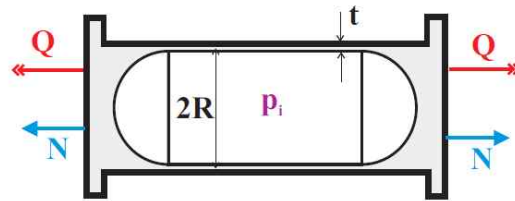

Fig. 7.13. Pressure vessel subjected to internal pressure, external torque and axial force.
The experimental set-up depicted in fig. 7.13 is aimed at studying the behavior of materials under complex stress states. A thin-walled pressure vessel of radius  $R = 11$  mm and thickness  $t = 2.0$  mm is subjected to an internal pressure  $p_i$ . At the same time, a normal force,  $N$ , and a torque,  $Q$ , are applied to the sample. In a specific experiment, the applied normal force is  $N = 16$  kN and the internal pressure  $p_i = 20$  MPa. The applied torque is slowly increased. The first permanent deformations are observed at the outer surface of the sample when  $Q = 120$  N·m. (1) Find the yield stress for the material if it is assumed to follow von Mises' yield criterion. (2) Find the yield stress for the material if it is assumed to follow Tresca's yield criterion. (3) Find and plot the yield surface in the space defined by the three loading components, the internal pressure, the applied axial force, and the applied torque.